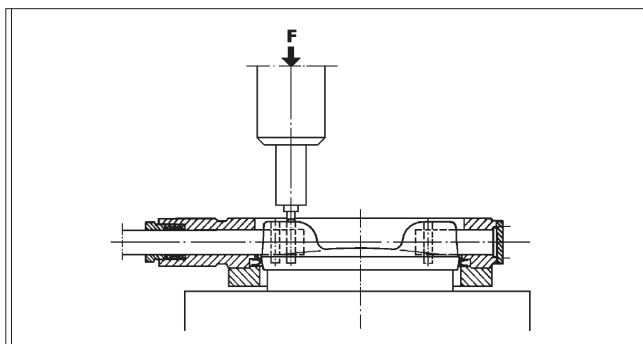

Fig. 18 Pressing the pins
- Support the disc well in a horizontal position during mounting of the pins. Push the new pins into the holes and press them in a press to final form (see Fig. 18). Use slightly larger pressing tool than the pin diameter. See Table 7 for forces.